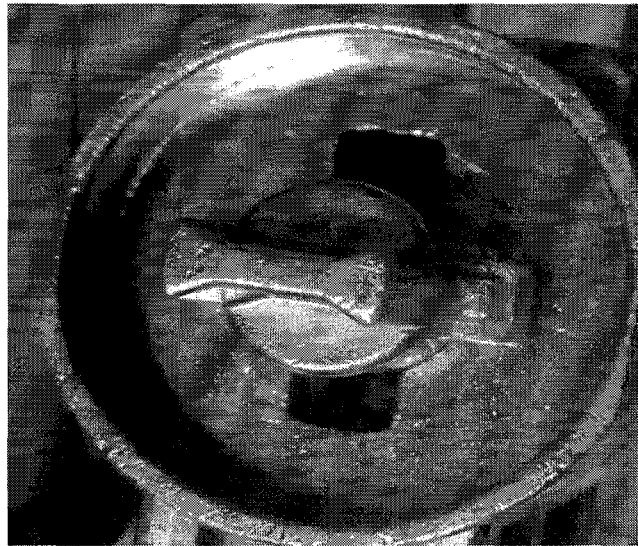

Fig. 9 Lock Cylinder Assembly - Cylinder Position
12. Turn the key to the position shown in (Fig. 9).